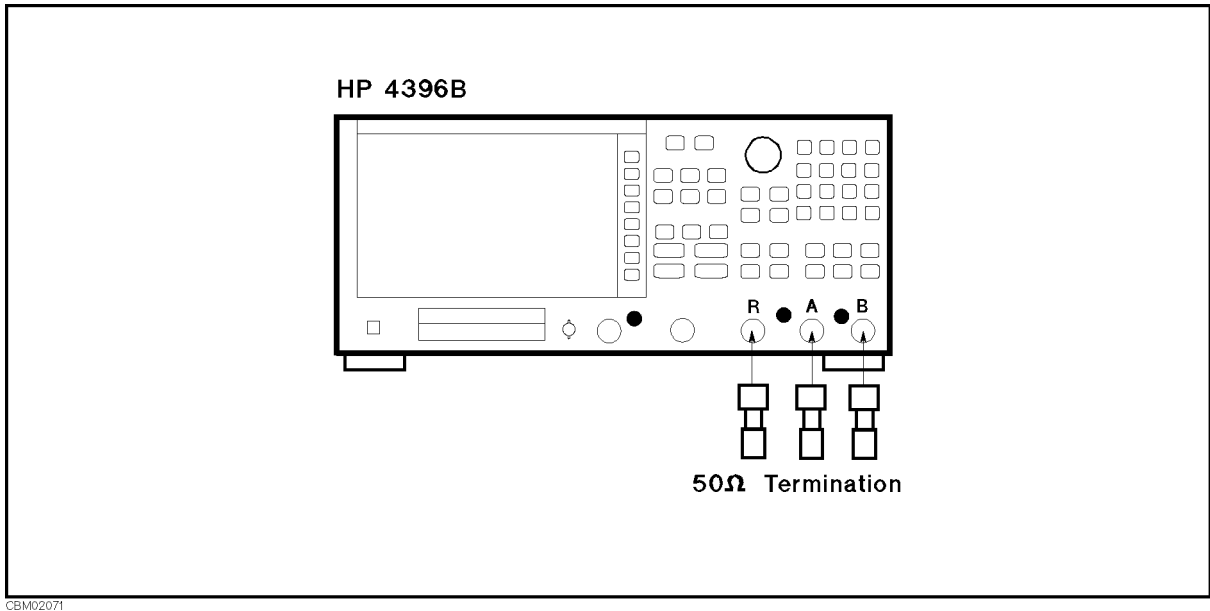

Figure 2-6. Receiver Noise Level Test Setup
1. Connect the test equipment as shown in Figure 2-6.